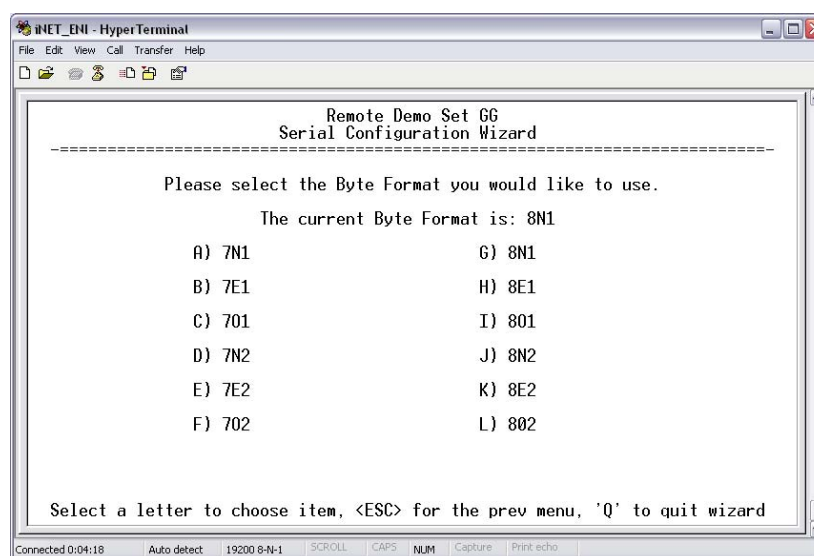

Figure A-15. Select Byte Format
4. Press **A** through **L** to select the desired byte format. See Figure A-15.